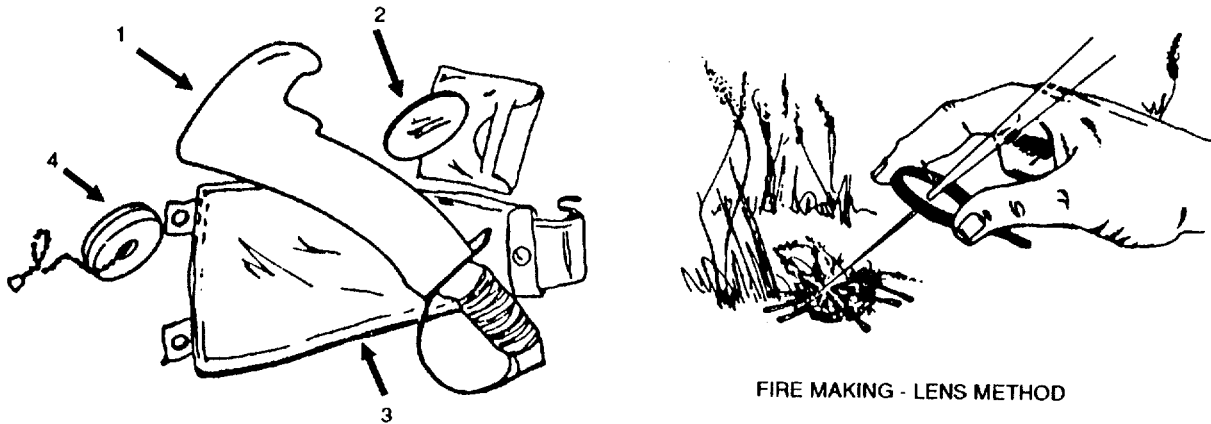

Figure 2-45. Tool Kit, Survival
- w. Tool Kit, Survival. The tool kit survival (See Figure 2-45) contains a heavy, short machete with a sharp blade (1), a burning lens (magnifying lens) (2), carrying case (3), and a sharpening stone (4) and a thong located in the inside pocket of the case.